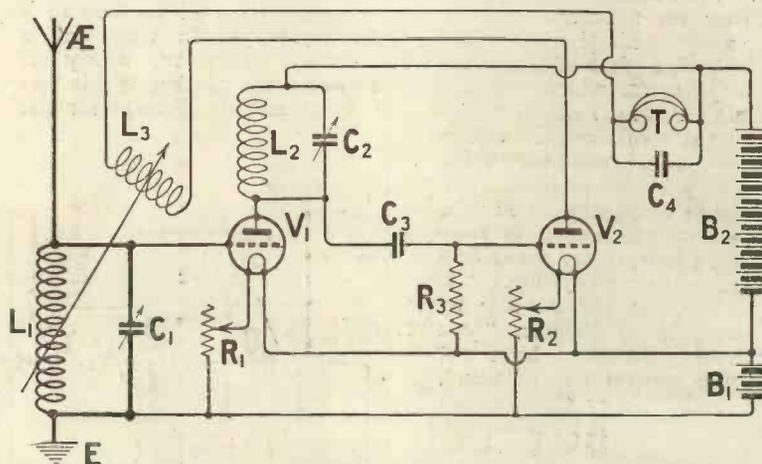
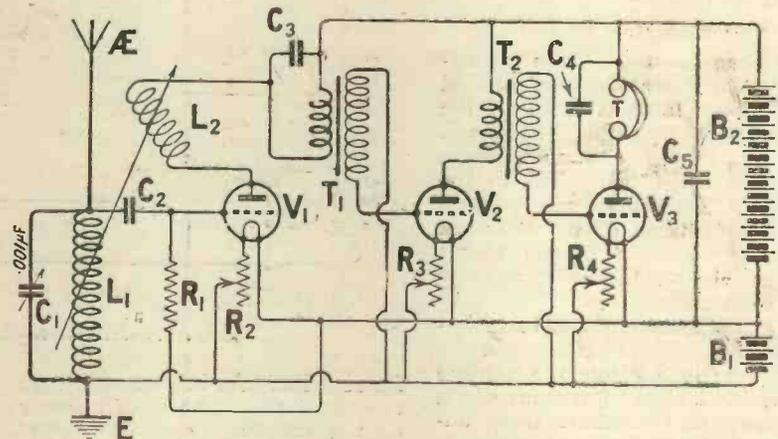

Fig. 2.—Another popular arrangement.
Fig. 1.—The circuit used by Painter.
Another popular circuit which many readers will have incorporated in a receiver is that shown in Fig. 2. We have as before the aerial circuit  $L_1$ ,  $C_1$ , with a reaction coil  $L_3$  coupled to  $L_1$ . The first valve in this case acts as a high-frequency amplifier, meaning that the received oscillations are amplified before being detected by the second valve. It will be seen that in the anode or plate circuit of the first valve we have another coil  $L_2$  shunted by a variable condenser  $C_2$ , which readers will recognise as a tuned anode. As before, the value of  $L_1$  will vary with the wave-length desired, as also will the reaction coil; the condenser
$C_1$  will in most receivers be of 0.0005  $\mu$ F capacity. The value of the coil  $L_2$  will, in relation to  $L_1$  and  $L_3$ , vary with the wave-length desired, whilst the condenser  $C_2$  will in the majority of receivers be one of 0.0003  $\mu$ F. The tuning of a circuit of this type is a little more difficult than that in Fig. 1 on account of the extra controls and its natural tendency to oscillate. With care and a little patience, however, the operation of such a circuit need present no difficulties to even the beginner in radio.
for reaction. As in Fig. 1 we tune the aerial circuit to the frequency of the incoming oscillations and since we are to amplify our received signal before detecting it, it is necessary also to tune the circuit  $L_2$   $C_2$  to the frequency of  $L_1$   $C_1$ , otherwise nothing will be heard. It is during this process of tuning the two circuits  $L_1$   $C_1$ , and  $L_2$   $C_2$ , that the receiver shows a tendency to oscillate of its own accord, and extreme care, therefore, is called for.
Using such a circuit as Fig. 2, experiments will show that for the reception of 5XX the best value for the coil  $L_2$  will be a No. 200; we have, therefore, No. 150 for  $L_1$ , No. 200 for  $L_2$  and No. 200 for  $L_3$ . With  $L_1$  and  $L_3$  at right angles to each other, we now light both the valves, when tuning must
**I**T was Painter who put forward the next problem. He explained that he had just made up a set of his own design containing three valves, and that he was not satisfied with the quality of the signals received. At John's request he drew the circuit, which is shown in Fig. 1. John took it and looked at it steadily for a minute or two, puffing away at his pipe the while. Then he took a piece of paper and drew the diagram which you will see in Fig. 2. Fig. 1 shows a very ordinary straightforward circuit consisting of a rectifying valve with two note magnifiers. In Fig. 2 the same circuit is seen with a few alterations, which, as John explained, make a very great deal of difference to its working. "If you put the two circuits side by side," he said to Painter, "you will see that though I have not altered the general run of yours, I have made two or three rather important changes and additions. Let me tell you, first of all, what I should imagine to be the faults which you have to find with your own design.
In the first place, your signal strength is probably not so good as it ought to be. This is because you are using a large aerial tuning condenser in parallel with the inductance. For short waves I suggest putting the aerial tuning condenser in series. Next, I do not think that you found your set very selective. This is due to two things. In the first place, you are using a single circuit tuner, and, secondly, your A.T.C. has a large maximum capacity. A single circuit tuner is not nearly so selective as that which consists of two circuits loosely coupled to each other. The looser the coupling the more selective the set becomes. By placing  $L_1$  and  $L_2$  (in fig. 2) far apart you can so arrange matters that your